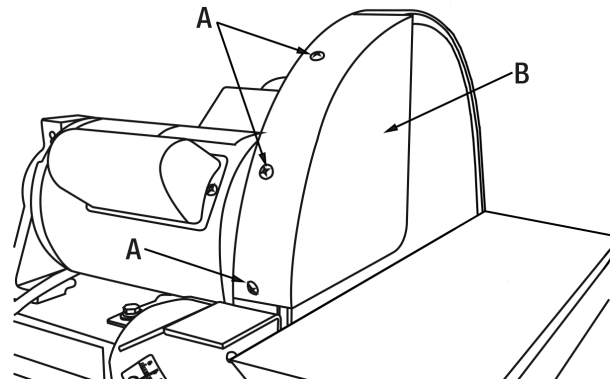

Figure 14
1. Remove the 3 pan head screws (A) Fig.14 then remove the disc safety guard (B).